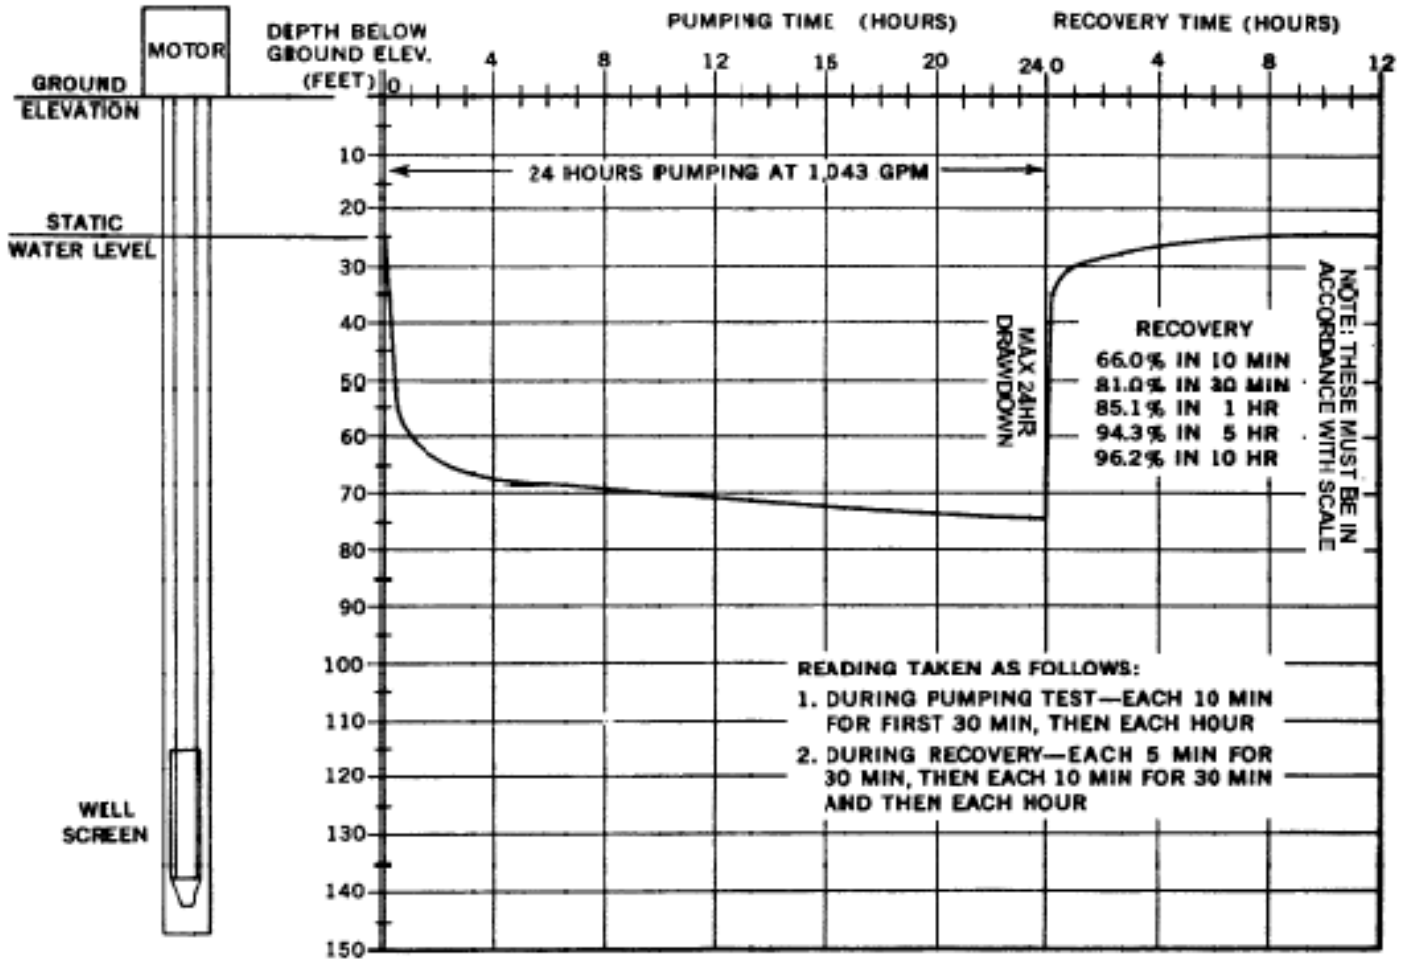

Figure 6
**3.2.5.4 STARTING A NEW WELL PUMP.** Table 18 lists startup procedures for vertical turbine well pumps. While plant operators will not generally be responsible for performing these startup procedures, they may be charged with overseeing the contractors performing installation and it is preferable that they are familiar with the startup tasks. Figure 6 shows the necessary water-level checks. If problems occur, refer to the troubleshooting checklist provided in Table 19.
Water level	Make immediate check of water level and record data for future reference. Perform pumping and recovery water-level checks as shown in Figure 6.